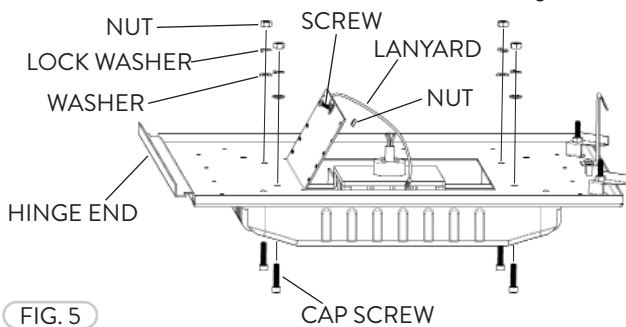

FIG. 5
- 2 Fasten the FCPC fixture to the Retrofit Plate with Cap Screws, Washers, Lock Washers, and Nuts (4). Fasten the Safety Lanyard with a Screw and Nut to the Retrofit Plate and a Screw (Screw to fixture included with fixture) to the FCPC fixture (Fig. 5).